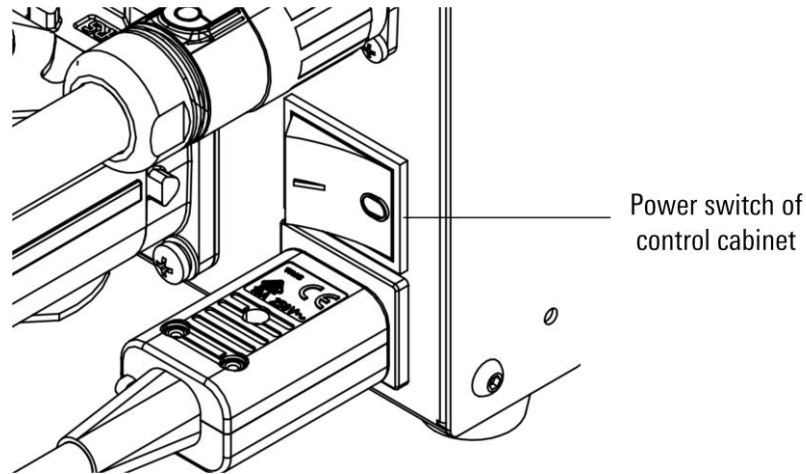

Figure 3-9 Power switch of control cabinet
- Step5. After powering on, switch the rocker switch from "0" to "I" (refer to Figure 3-9), start the control cabinet, at the same time the switch's own light is on, and the teach pendant starts.